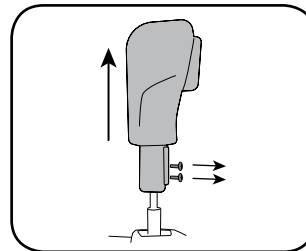

Fig. 1.3
3. Remove the two Phillips screws securing the shifter in place. Pull up to remove the shifter and place back into park position. (Fig. 1.3)